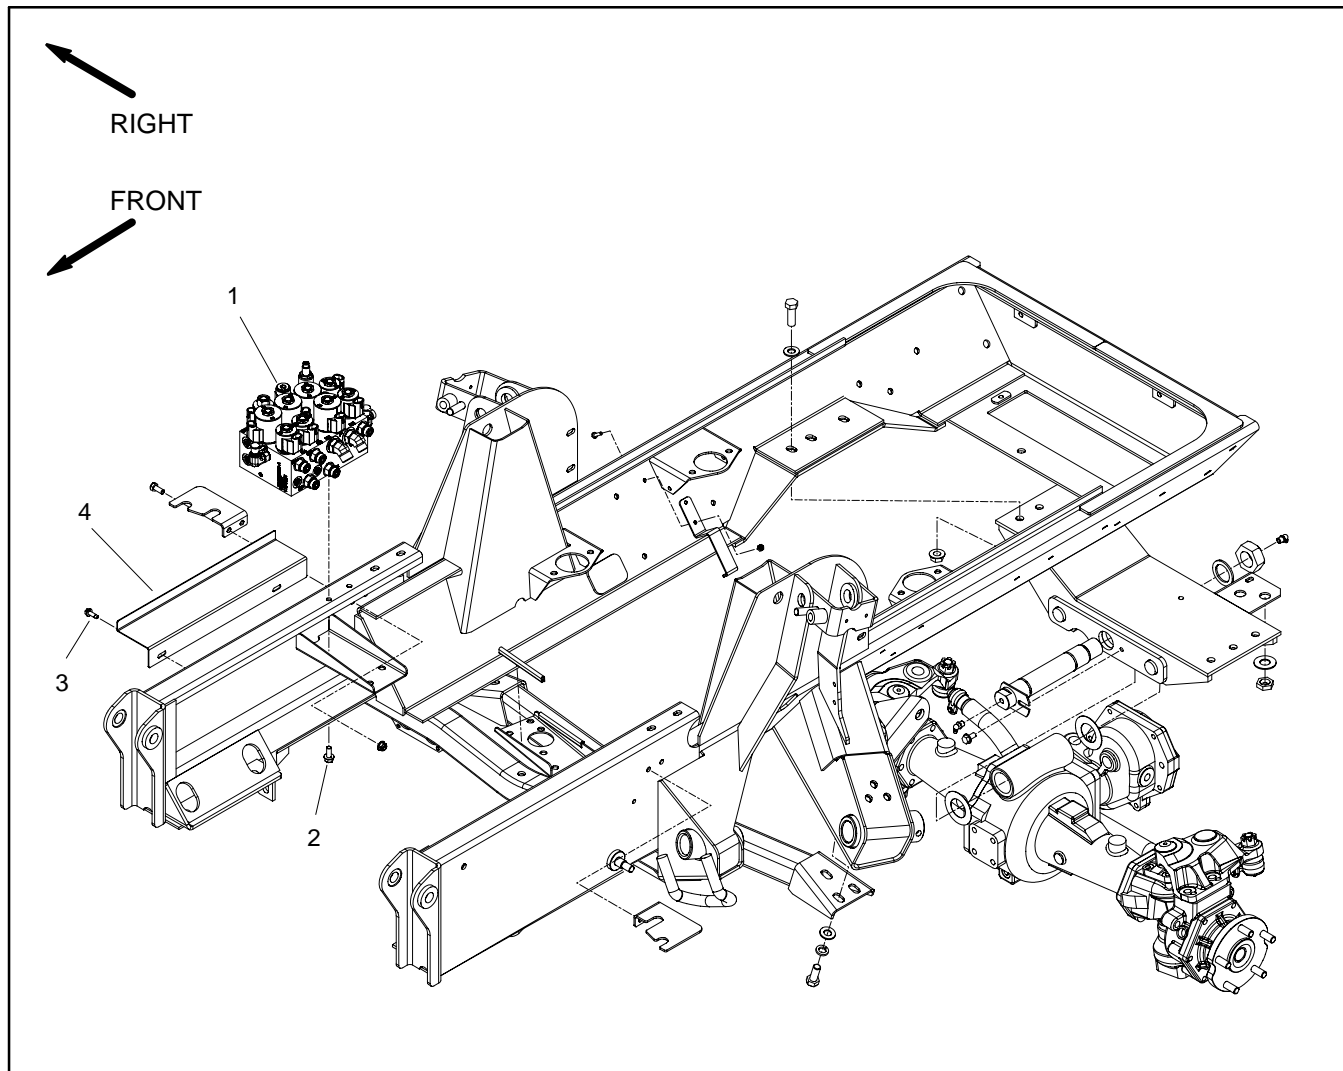

Figure 109
### Removal (Fig. 109)
7. Remove lift/lower manifold using Figure 109 as a guide.
#### Installation (Fig. 109)
2. Install lift/lower manifold using Figure 109 as a guide.